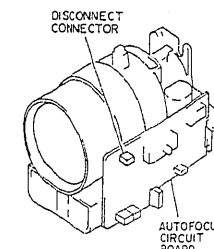

Fig. 2-102
- 1) Disconnect connector CN01AF on the autofocus circuit board. (See Fig. 2-102)